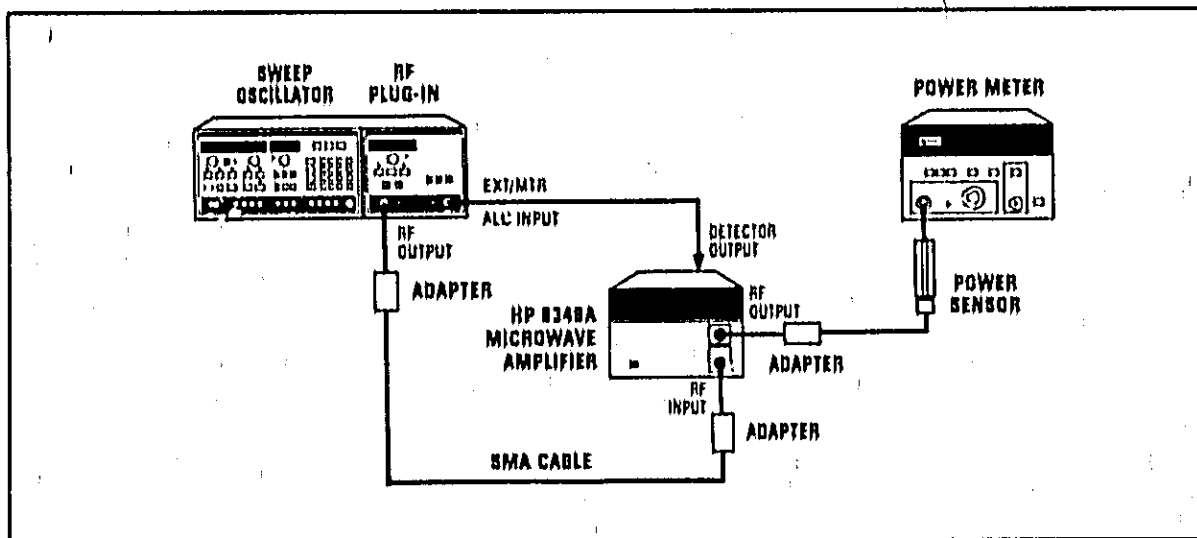

Figure 5-4. Displayed Power Level Adjustment Setup
4. Connect the equipment as shown in Figure 5-4. Switch on the LINE power and allow the instruments to warm up for 30 minutes.